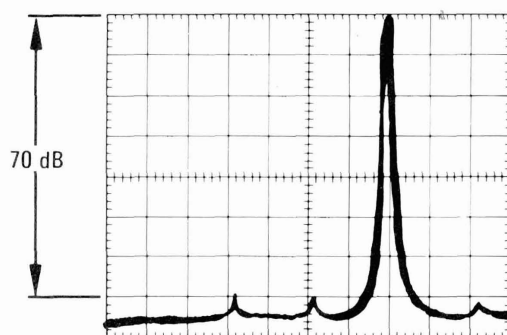

Figure A5-35. Waveform at A3A10TP3 Displayed on Spectrum Analyzer
- e. Connect 8553B Spectrum Analyzer to A3A10TP3 using 1121A probe. Center the 893 KHz signal on the Spectrum Analyzer screen as shown in Figure A5-35.
If the signals displayed are ≥ 70 dB down from 993 kHz signal as shown in Figure A5-35, no adjustment of "BALANCE" or "992 KHz PEAK" is necessary.